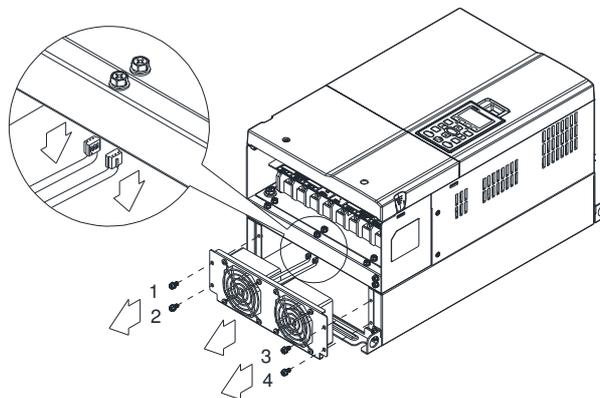

Figure 1
- (As shown Figure 1) Before removing the fan, remove the cover by using a slotted screwdriver.